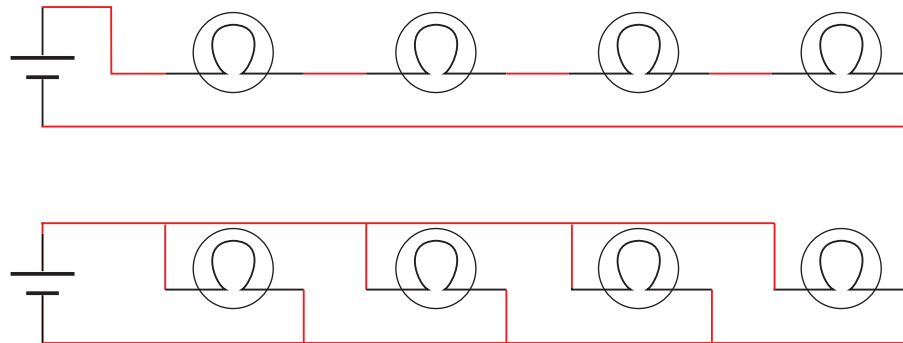

Figure 24
- (60) Complete the two wiring diagrams shown in Figure 24 to produce one circuit in series and one in parallel. (Page 275.)